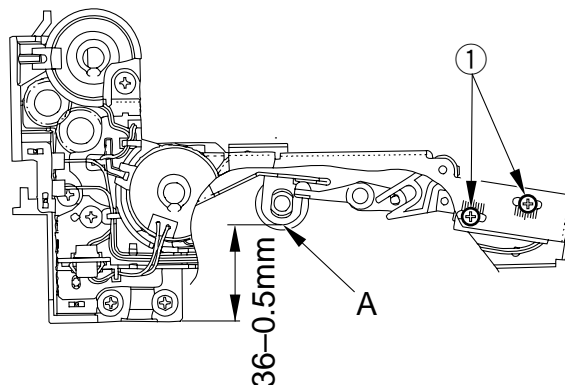

Figure 5-845
Turn the two screws ① to adjust the solenoid so that the distance from the bottom of the pick-up assembly and section A of the roller arm is  $36 \pm 0.5$  mm as indicated in Figure 5-845.